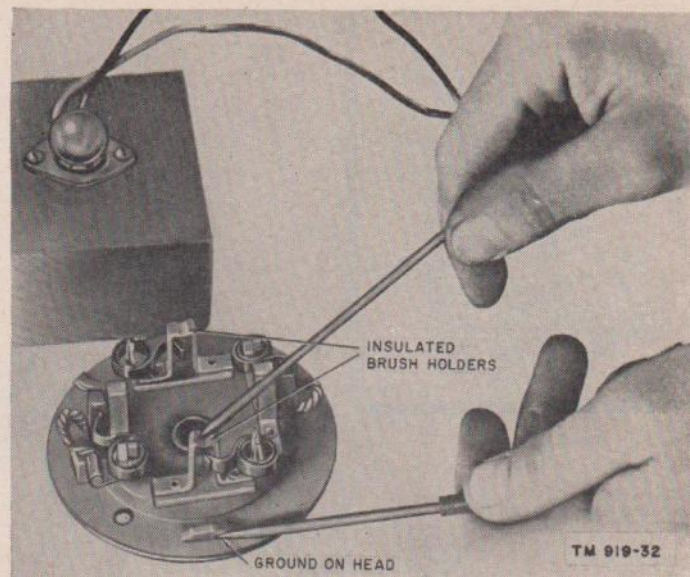

Figure 34. Testing brush holder for grounds (starting motor).
4. Using test probes, touch each insulated brush holder with one probe, and a convenient ground on the commutator end plate with the other probe (fig. 34). If the lamp lights, a ground is indicated and the brush holder must be replaced.